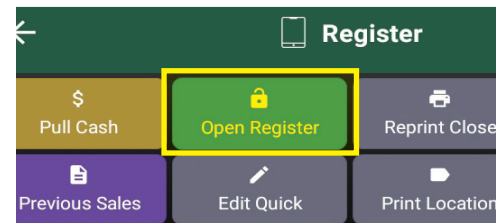

Figure 46
2. You will see several options (Figure 46):